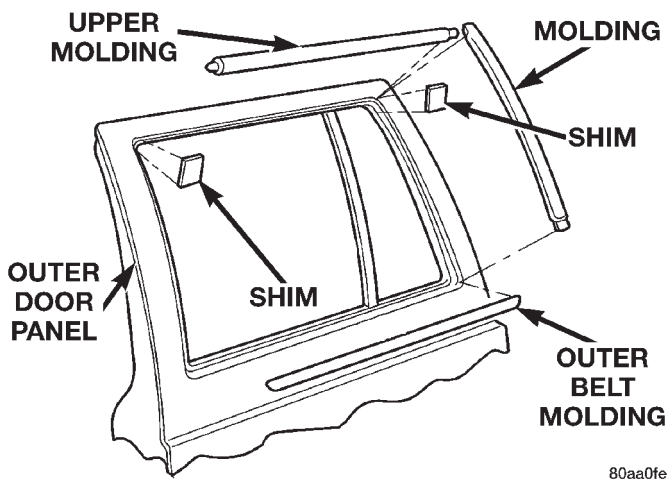

Fig. 55 Rear Glass Exterior Molding
- (1) Open the window.
- (2) Remove the outer belt molding.
- (3) Pry and pull the molding sections from the door panel flange (Fig. 55).